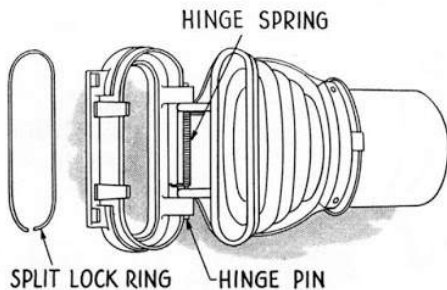

FIG. 134—Hygienisac bag ring and muffler assembly
- d. To remove the bag ring from the muffler assembly, pry out the split lock ring located inside the bag ring and drive out the long rivet or pin and spring that acts as a hinge between the bag ring and the muffler assembly. Figure 134. (When re-assembling, place the hooked end of the spring against the bag ring and the straight end against the flange of the muffler housing).